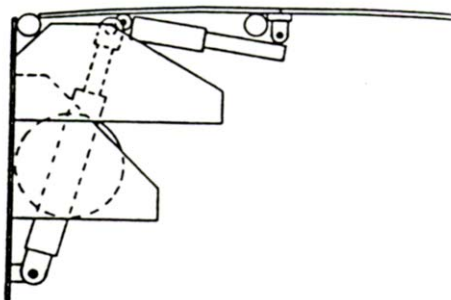

Figure 4
5. Release button. Leveler will lower to truck bed (Figure 4).